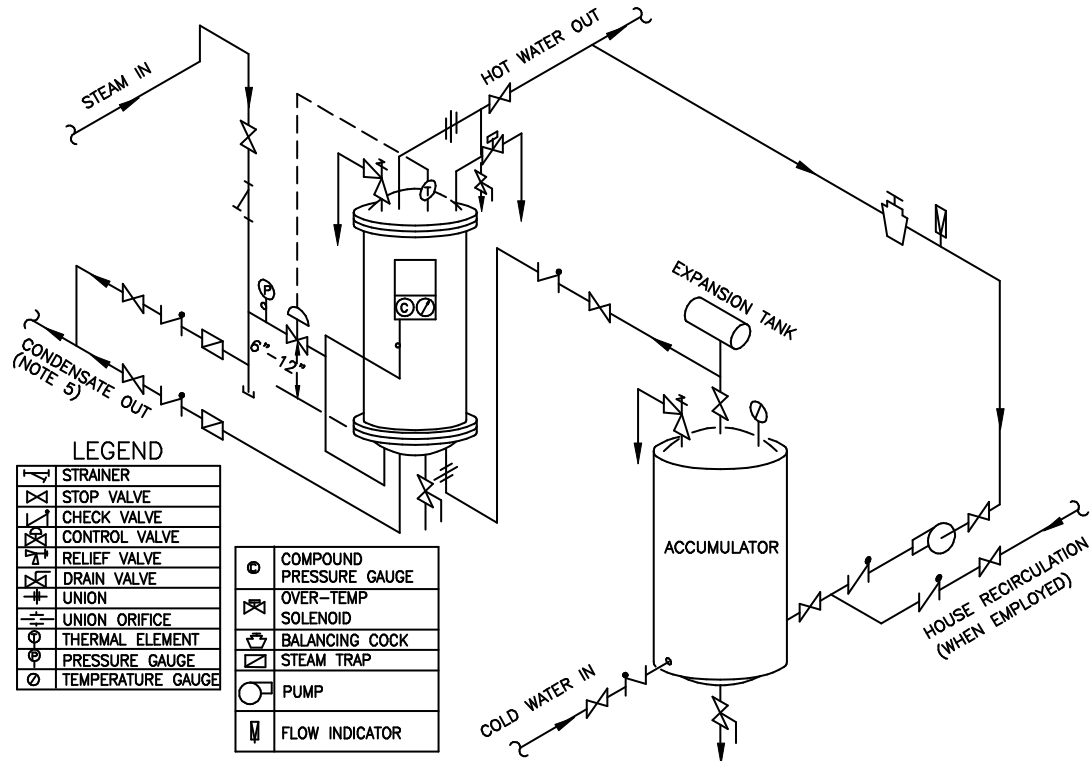

Figure 5 – Piping Connections for a Single Heater used with an Accumulator
- c) Single Heater used with an Accumulator – Figure 5